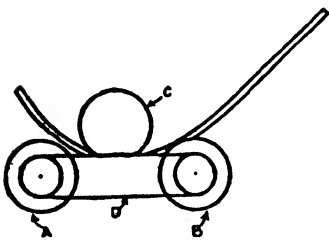

FIG. 69. A, roller driven by handle geared to it; D, chain which drives roller B; C, adjustable roller for giving different curvatures.
2. Curve the end of the new tire with a hammer and place it in the tire bender, Figs. 69 and 70, and bend to approximately the curvature of the wheel.